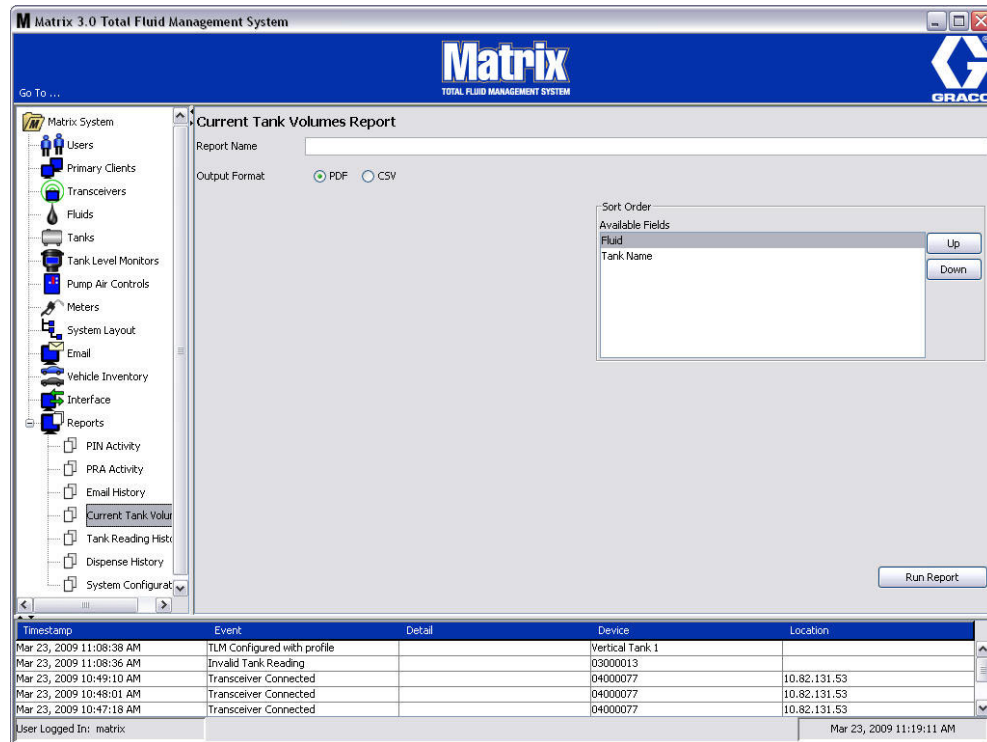

FIG. 173
- **Current Tank Volumes (FIG. 173)**